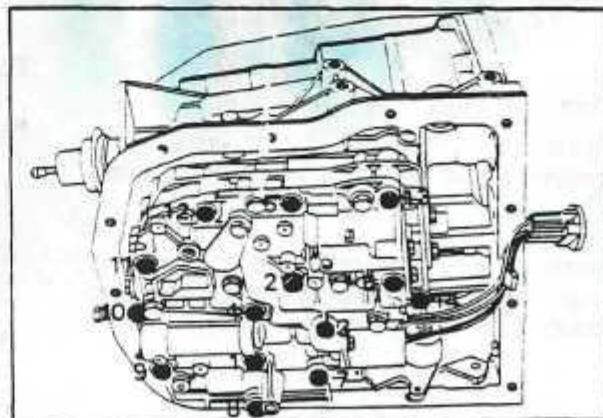

Fig. 18 VALVE BODY ATTACHING BOLTS-SEQUENCE
3. Remove the three (3) bolts securing the fluid pick-up screen and gasket and remove.
4. Remove the valve body attaching bolts only. *Fig. 18*
2. Fit the valve body assembly to the transmission and install the remaining bolts. Torque tighten the bolts in the sequence shown. *Fig. 18*